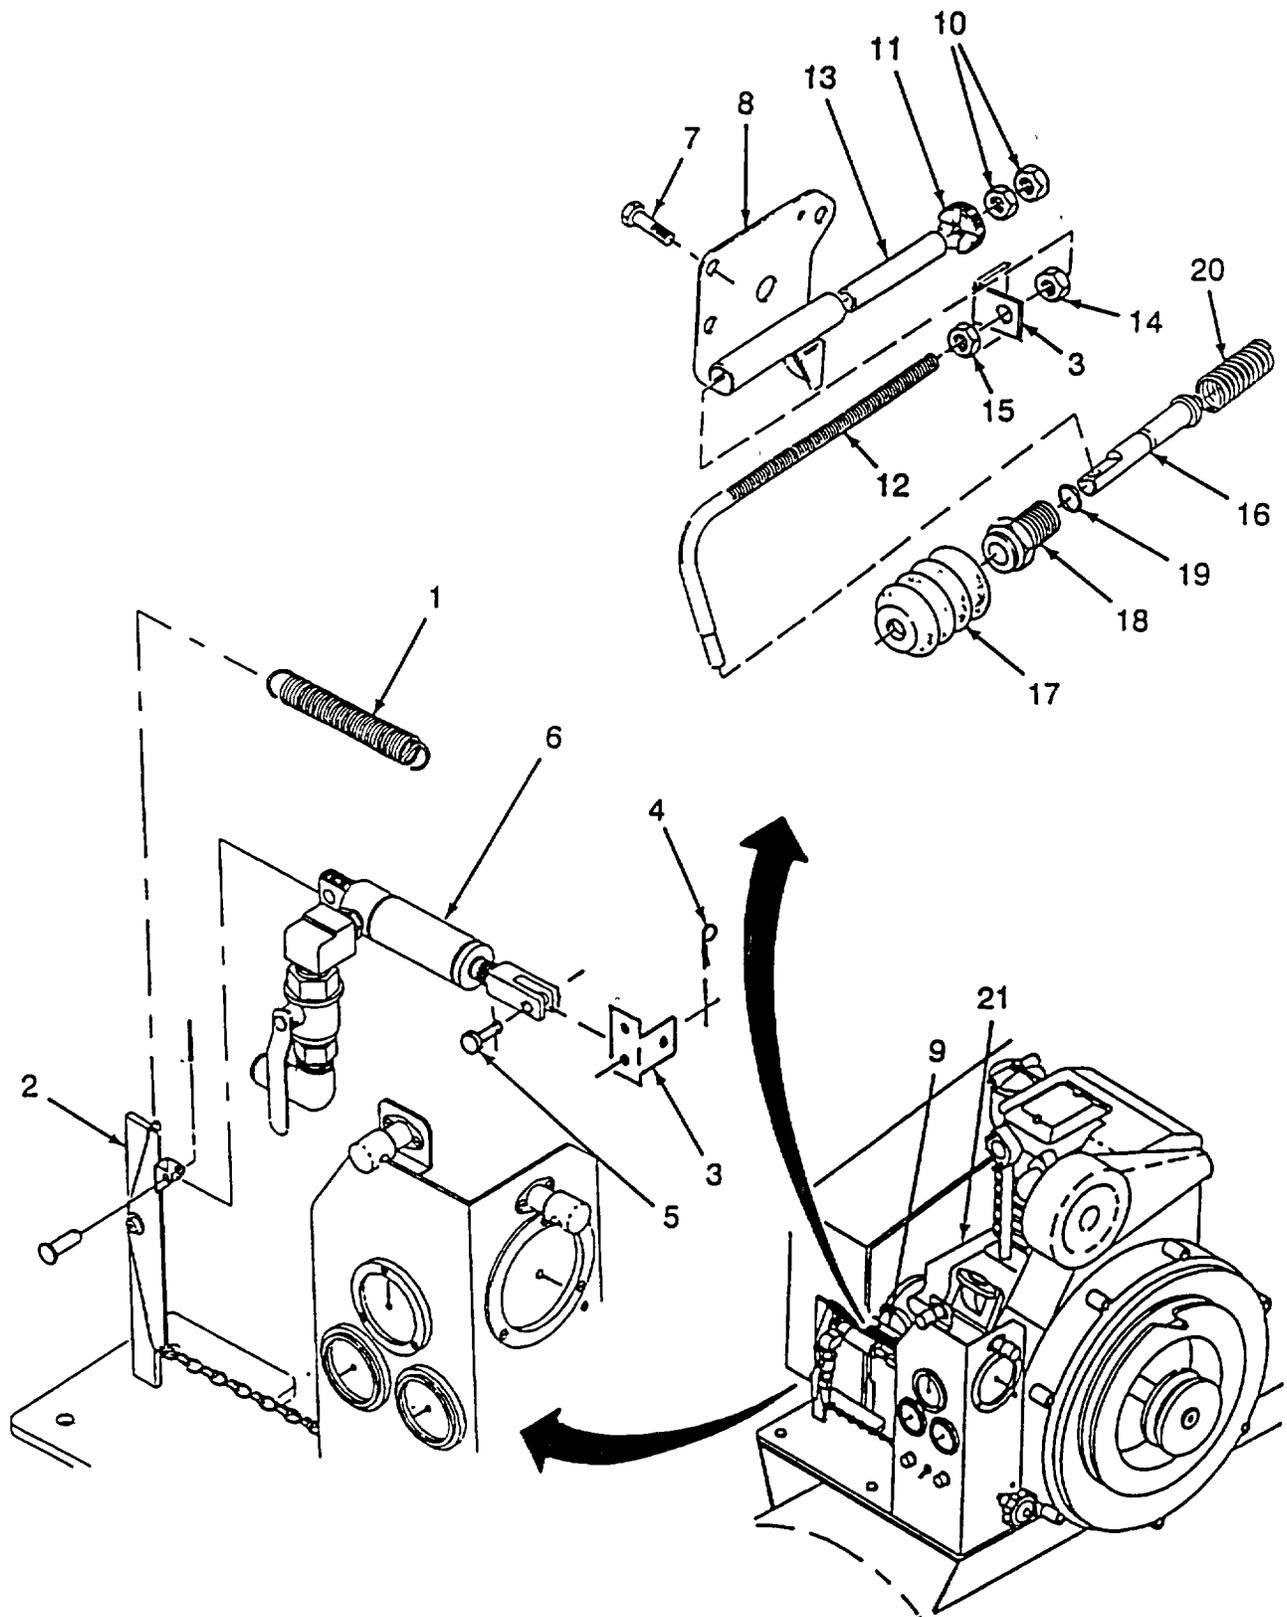

Figure 5-18. Variable Speed Control
## (1) Removal. (Refer to Figure 5-18).
- (a) Remove tension spring (1) from air cylinder support bracket (2) and from upper throttle bracket (3).
- (b) Remove cotter pin (4) from pin (5) holding throttle assembly (6) to upper throttle bracket (3).
- (c) Remove three capscrews (7), holding bracket (8) onto guard (9).